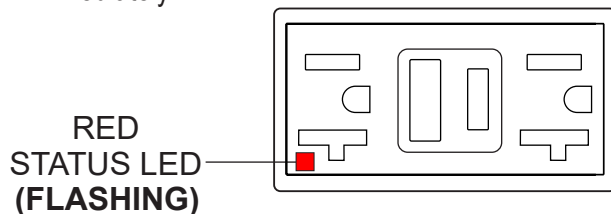

Figure 80. GFCI Receptacle (Red Flashing LED)
6. If the status LED (Figure 80) is **flashing (RED)**, **DO NOT** use the GFCI receptacle. Replace it immediately.